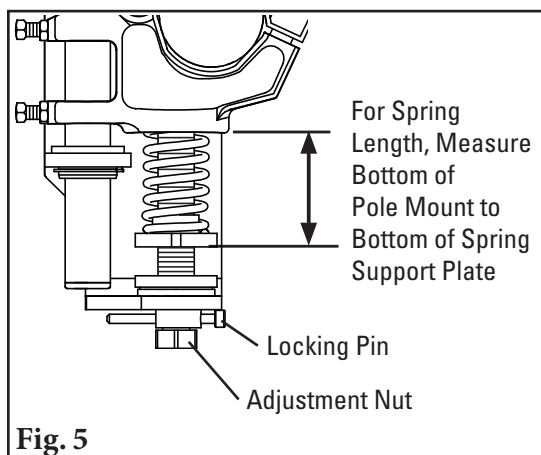

Fig. 5
- Set the blade tension.** Turn the adjustment nuts until the correct spring compression is reached (Fig. 5). Spring compression is determined by the spring length. See the chart below for the correct spring length for your belt width. Replace locking pins.